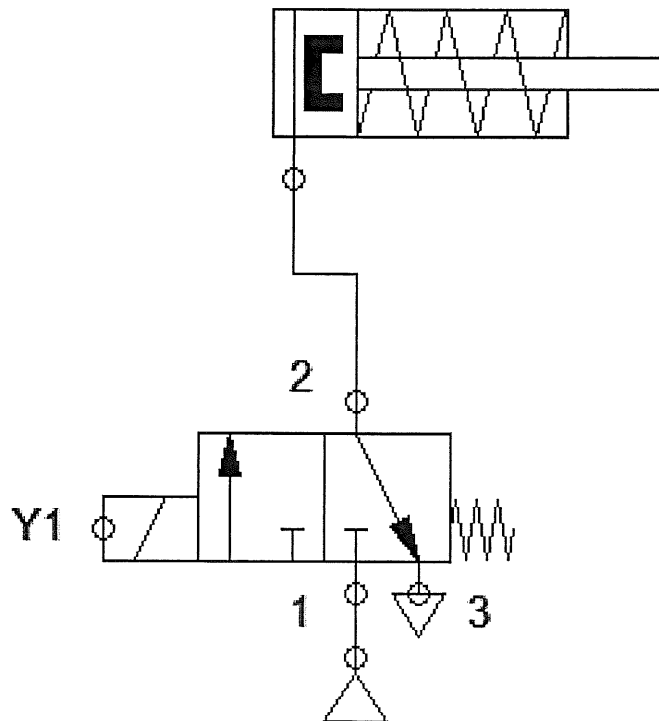

Figure 3
d) Based on Figure 3, a PLC system is used to activate cylinder based on the following condition: